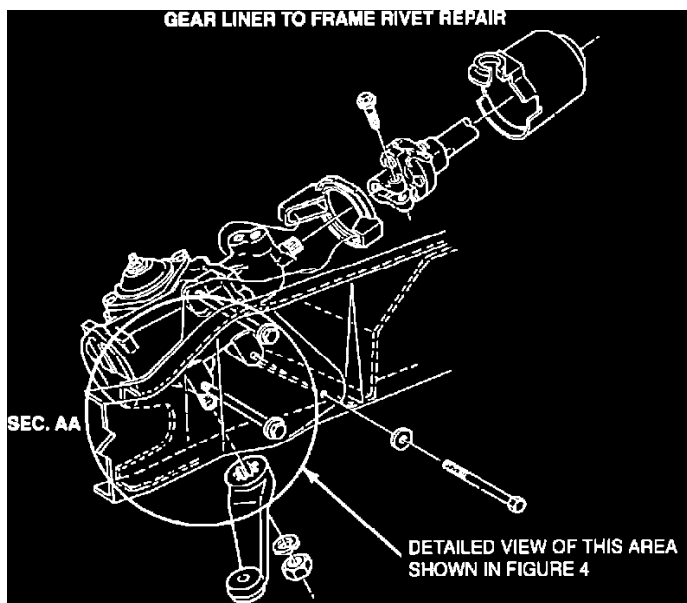

Figure 3
2. Repair trucks with a cracked frame liner or loose rivets by using Frame Repair Kit (E6TZ-5K130-A). See Figures 3, 4 and 5.